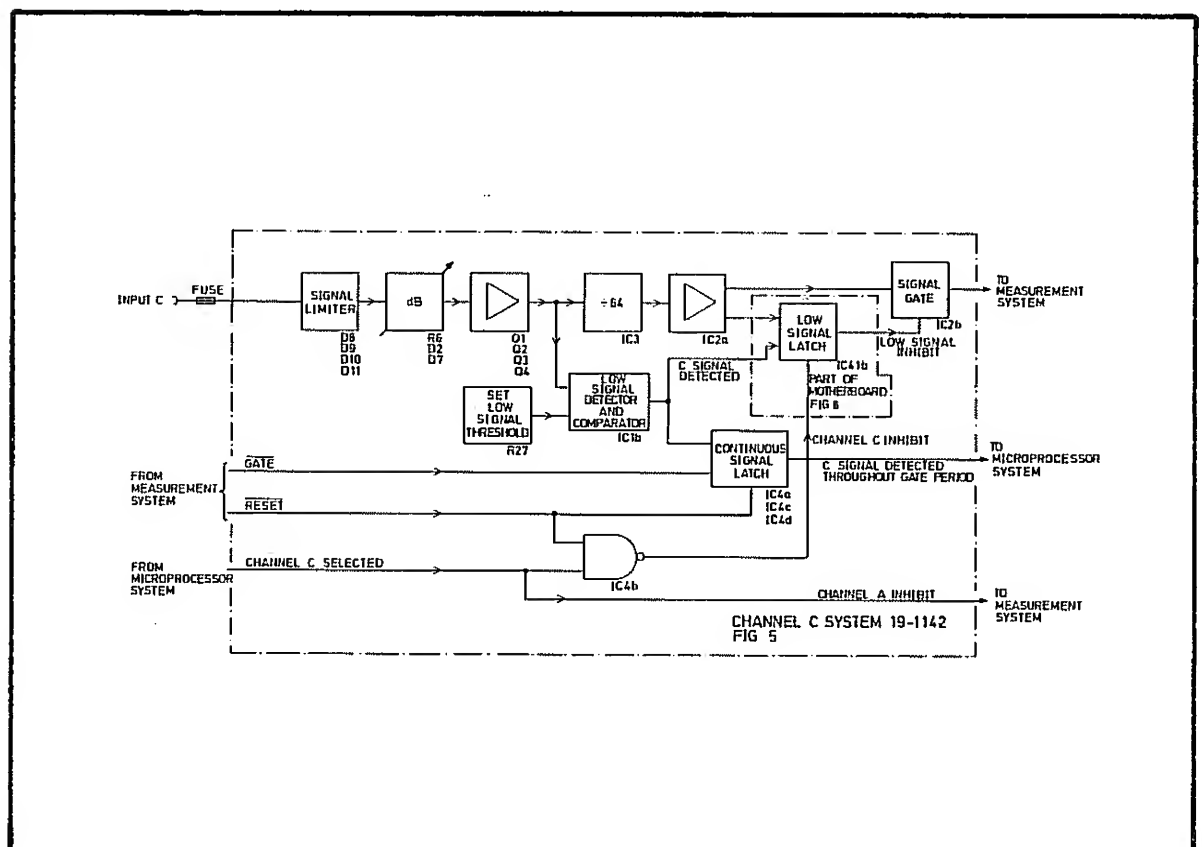

Fig 6.3 The Channel C System
- 23 The channel C system is provided on Model 1992 only. A block diagram is given in Fig 6.3. The system processes the signal applied at the channel C input and feeds it to the measurement system.